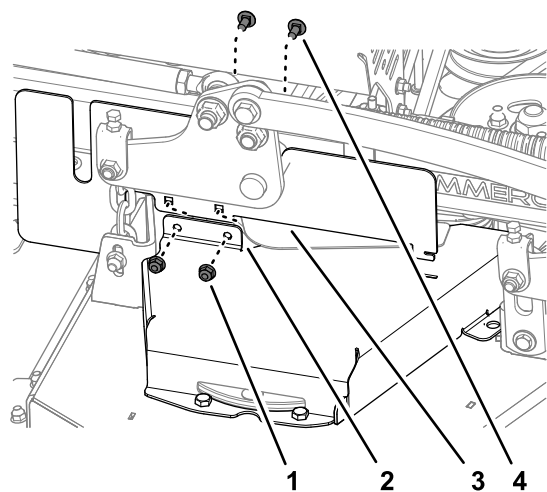

Figure 38
1. Remove the 2 carriage bolts and 2 lock nuts that secure the right side CE cover to the right belt cover (Figure 38).